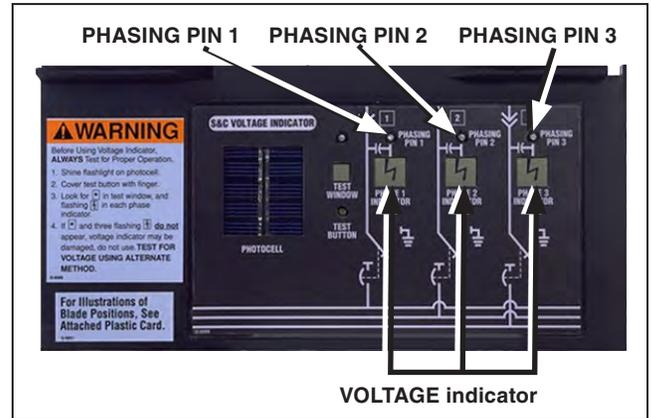

Figure 50. Before performing phasing, thoroughly clean surface and phasing pins.
STEP 1. Clean the surface and phasing pins of the VOLTAGE indicator of dirt and debris. See Figure 50.